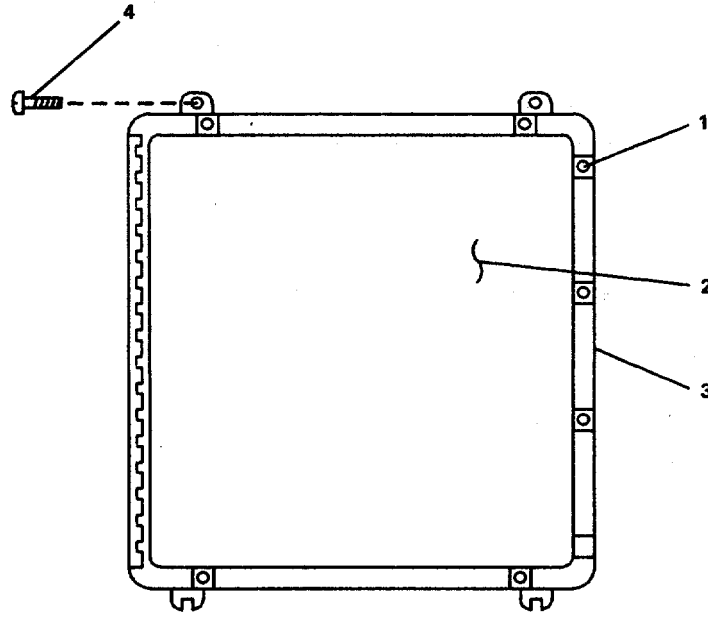

FIGURE 3-123. Bridge Multi-Remote Module.
**3-135. Replace/Repair Bridge Multi-Remove Module. (Figure 3-123)**